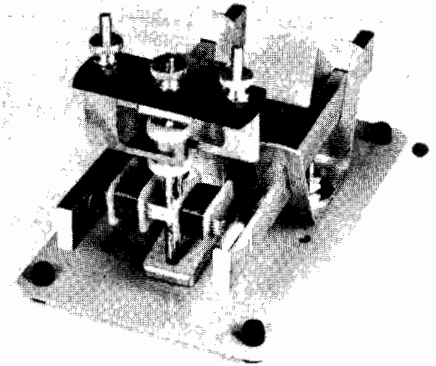

Fig. 7-2-1
2. Modify unit to prepare it for an experiment. See Fig. 7-2-1.